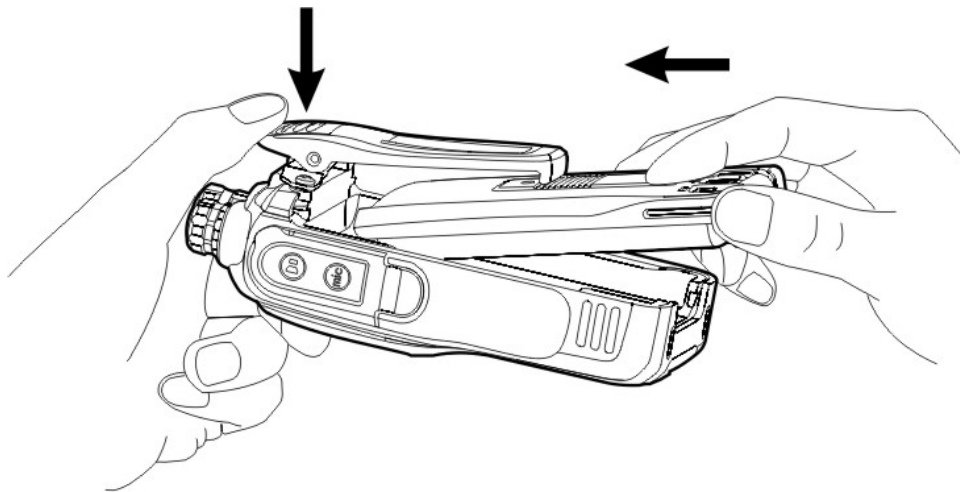

Figure 1
1. Hold the battery and make it attached close to the top of aluminum chassis, see figure 1.